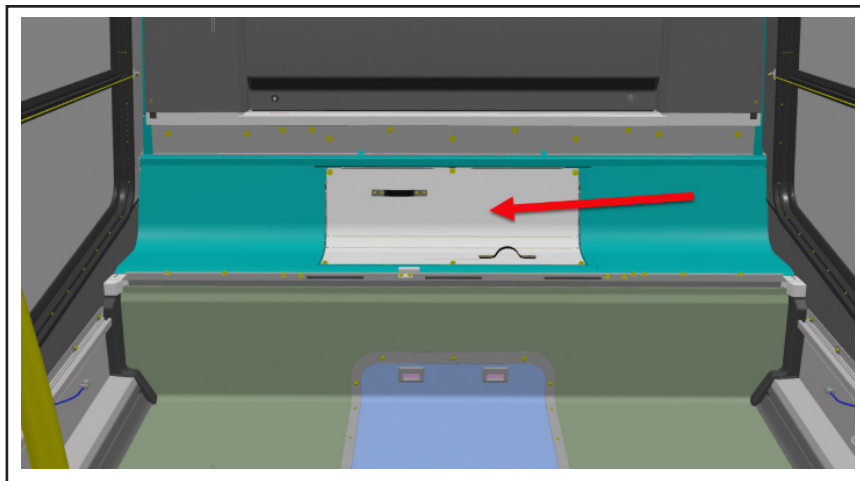

Figure 1 - Location of Engine Access Trap
- 1.4. Lift the rear 5 seat and remove the engine access trap (see figure 1).